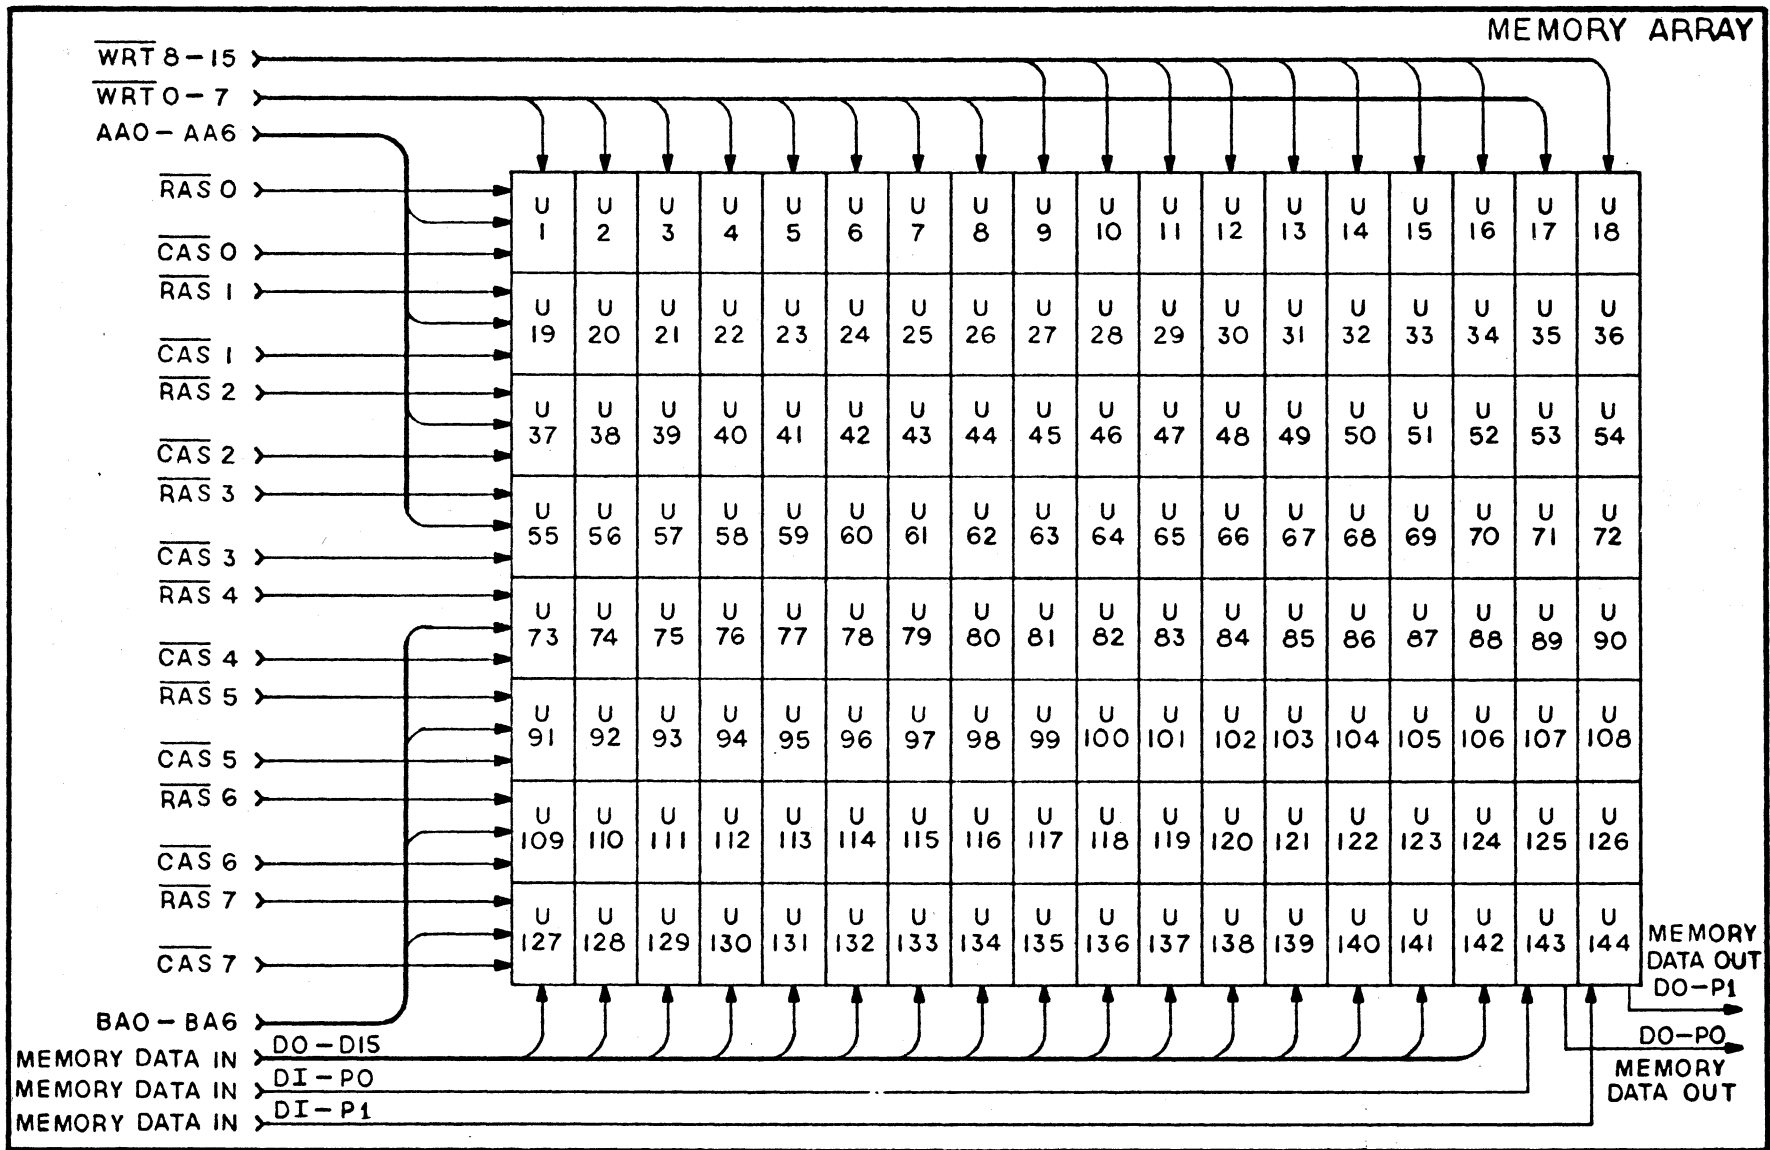

FIGURE 3-4
3.5 MEMORY ARRAY (FIGURE 3-4)
The Memory Array is comprised of 144 16K Dynamic Rams in a 8x18 matrix. Each Byte contains 128Kx9 bits of memory; eight data bits and a parity bit. Addresses A0 thru A6 are common to all Rams. RAS and CAS signals (1 of 8) are common to each row. Basic Array organization is shown in Figure 3-4.